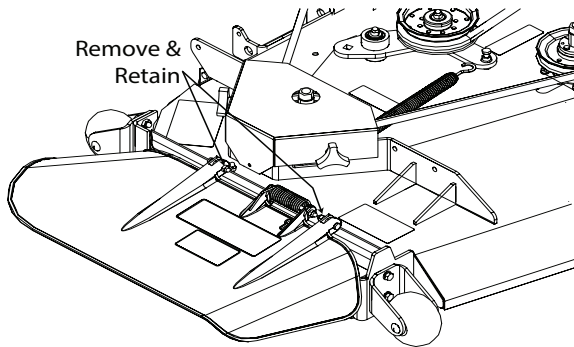

Figure 3-7. Removing the Discharge Chute
3. Remove the discharge chute from the machine. See Figure 3-7.